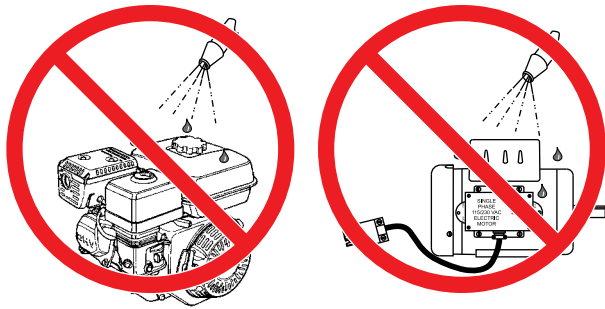

Figure 35. No Spraying of Water
10. **NEVER!** pour or spray water over the engine or electric motor (Figure 35).